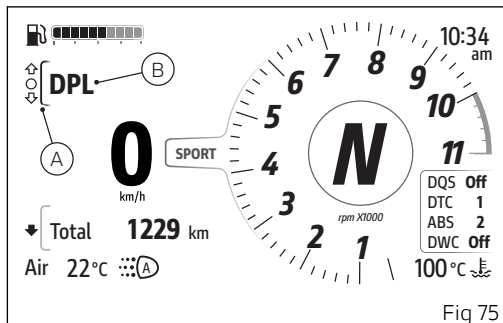

Fig 75
- Select the Interactive Menu (A, Fig 75) by pressing and holding button (1) pressed for a long time.
- Use buttons (1) and (2) to select item “DPL” (B, Fig 75) and press the ENTER button (3).